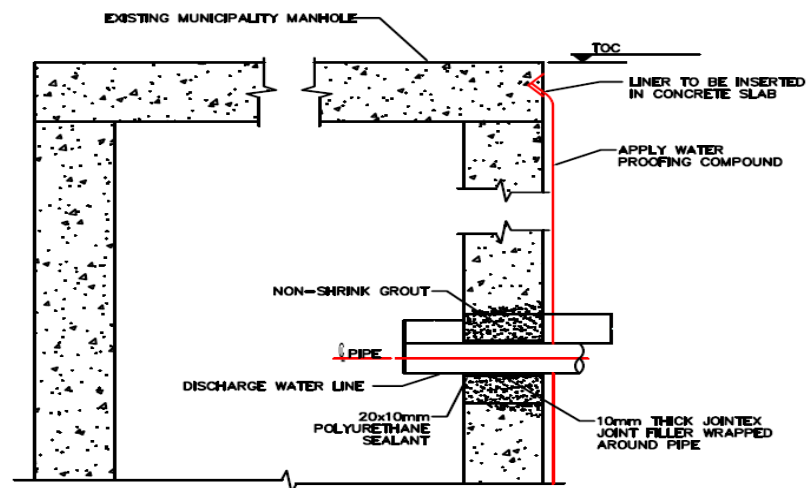

Figure 5 Discharge pipe underground connection to main municipal sewer manhole
- 1.2.1.7 Discharge piping to exit premises after pedestrian gate, on the outside of the boundary wall after which the piping will enter underground approx. 300mm deep as close to the wall as possible and thereafter enter the manhole side entry below ground, see drawing **'ALRODE SPILL BASIN SEWER CONNECTION PIPING DRAWING-A0'** for details. The piping going underground and leading to the sewer manhole shall be 3" HDPE, this piping shall interface with the galvanized piping via an HDPE moulded flange adaptor with a 1.5mm gasket thickness. The *Contractor* shall make provision for all excavation works. Figure 5 below illustrates the general arrangement of the proposed connection to the sewer.